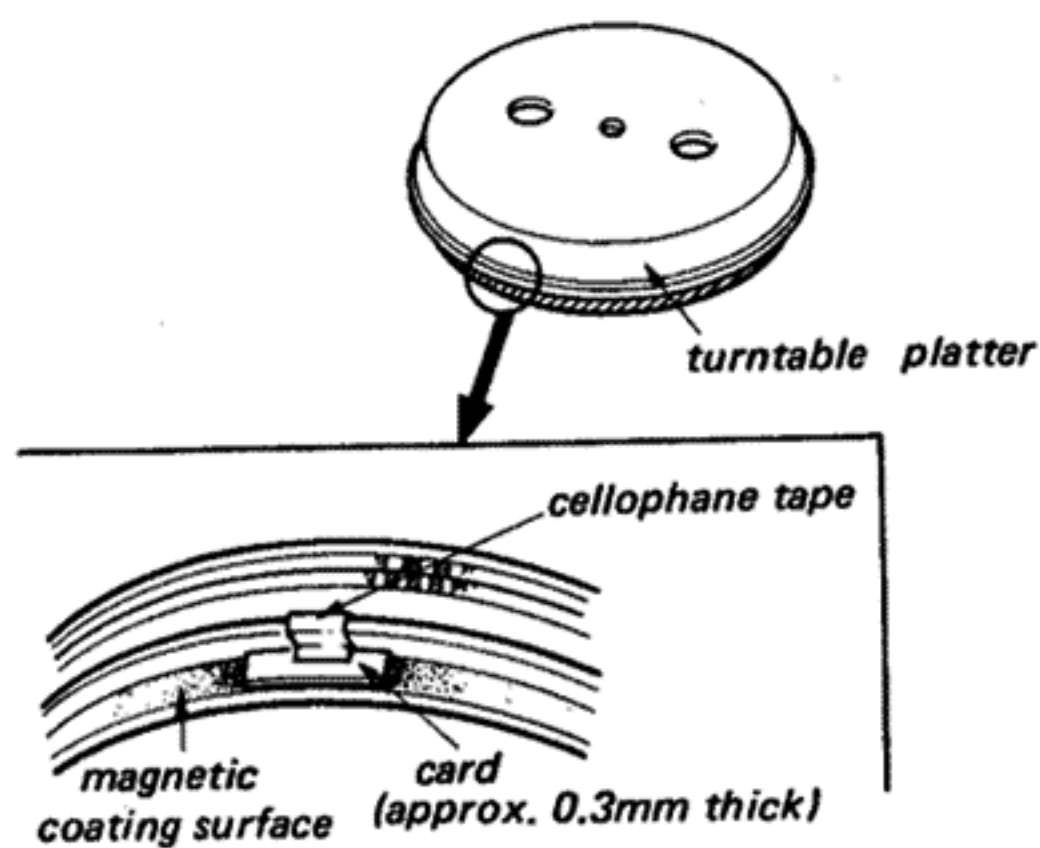

Fig. 2
- 4). Adhere the card (approx. 0.3mm thick) onto the magnetic coating surface of turntable platter as shown in Fig. 2.